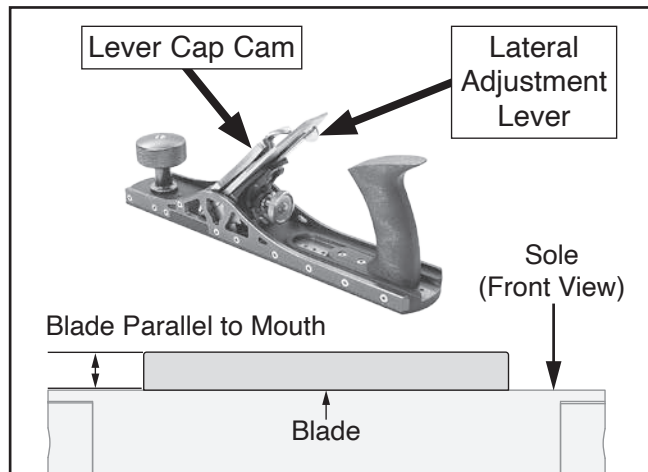

Figure 7. Lateral blade adjustment controls.
1. Open lever cap cam (see **Figure 7**).
2. Tilt lateral adjustment lever (see **Figure 7**) left or right to adjust blade side-to-side.